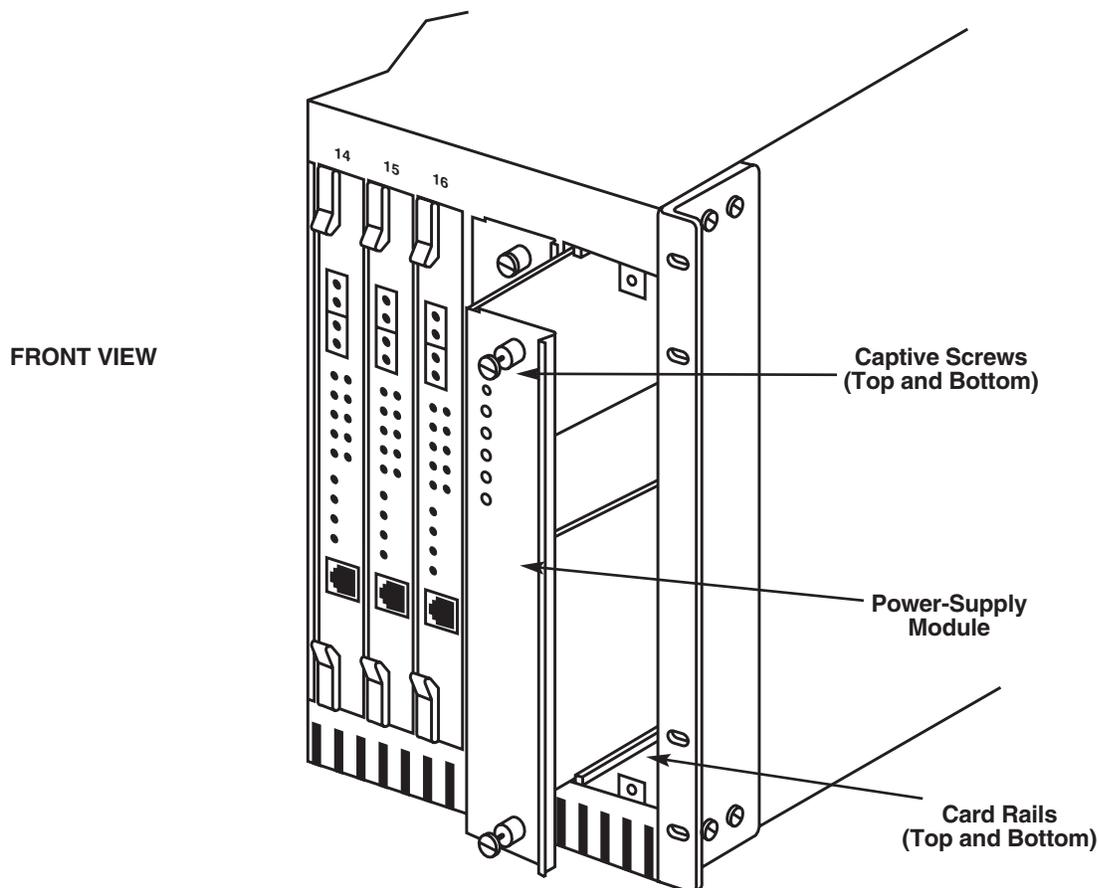

Figure 3-3. Reseating the Power-Supply Module.
1. Unscrew the top and bottom captive screws securing the Power-Supply Module to the chassis. See Figure 3-3.
3. Gently push the Power-Supply Module forward until it is seated in the backplane. The module should be flush with the chassis. See Figure 3-3.
4. Hand-tighten the top and bottom captive screws. These screws secure the Power-Supply Module to the chassis. See Figure 3-3.